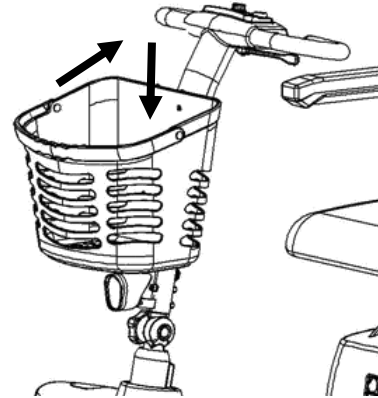

Fig 6.5.2
- Place basket onto bracket and make sure it is securely fixed. (See Fig 6.5.2)